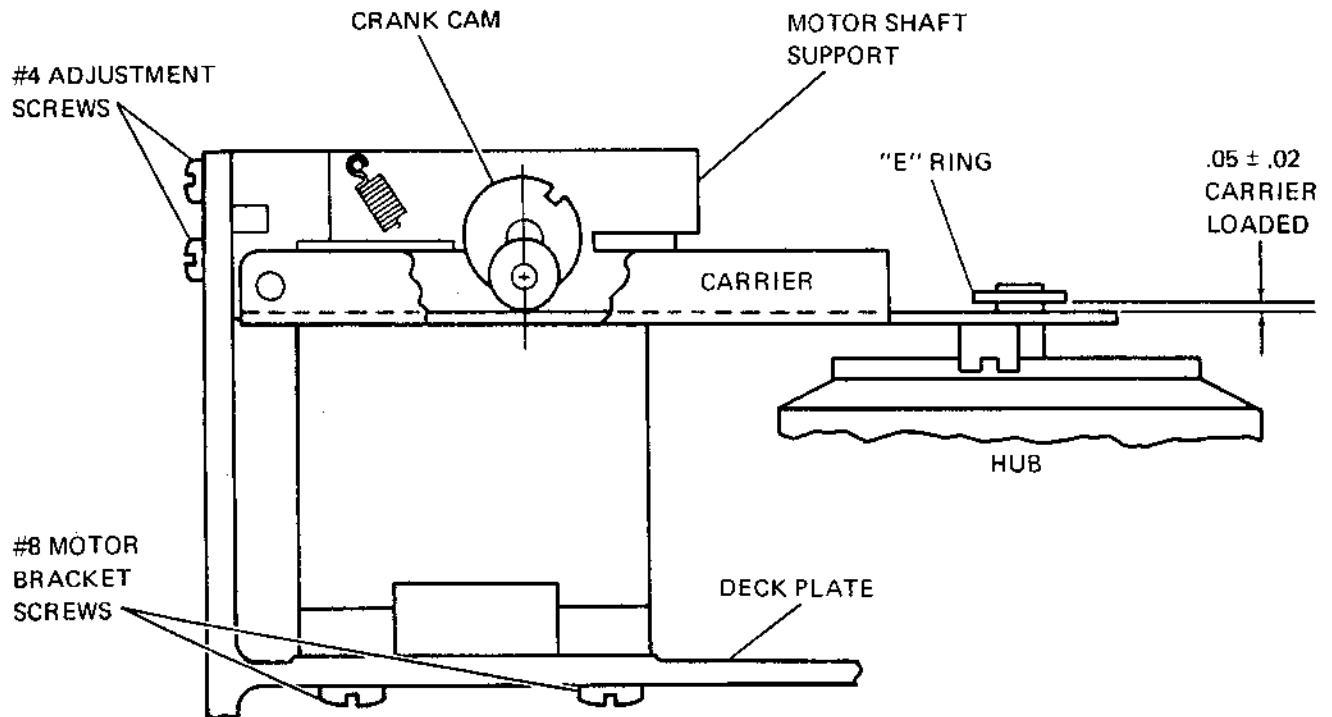

Figure 2-9. Crank Cam Alignment Check
- c. Observe the gap between the E ring which holds the cone assembly to the carrier and the corresponding carrier surface. (Figure 2-9.)